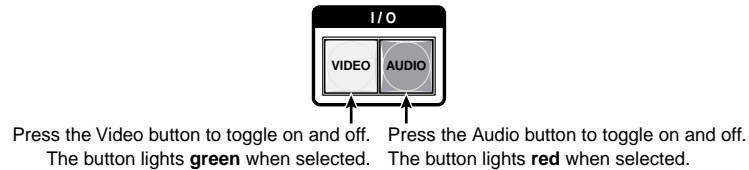

Figure 3-5 — Select video and audio
2. To select video and audio for the tie, if necessary, press and release the Video button and the Audio button. The Video and Audio buttons light (figure 3-5).